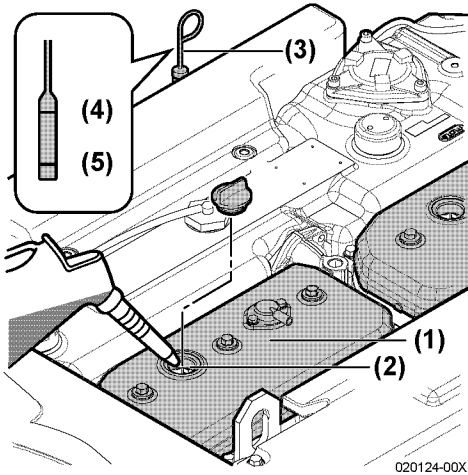
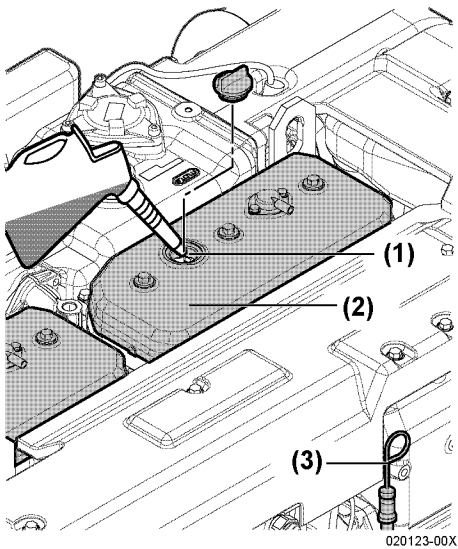

Figure 7
Figure 8
2. Remove dipstick (**Figure 7, (3)**) or (**Figure 8, (3)**) and wipe with clean cloth.
4. Remove dipstick. The oil level should be between upper (**Figure 7, (4)**) and lower (**Figure 7, (5)**) lines on the dipstick.
1. NOTICE: *Prevent dirt and debris from contaminating the engine oil. Carefully clean the dipstick and the surrounding area before you remove the cap.* Remove the yellow oil filler port cap from filler port (**Figure 7, (2)**) or (**Figure 8, (1)**) and fill with engine oil.
2. Fill with oil to the upper limit (**Figure 7, (4)**) on the dipstick (**Figure 7, (3)**) or (**Figure 8, (3)**). NOTICE: *NEVER overfill the engine with engine oil.*
1. Approximately 10 minutes after stopping the engine, remove the oil dipstick (**Figure 8, (3)**) and check the oil level. Add oil if the level is too low.